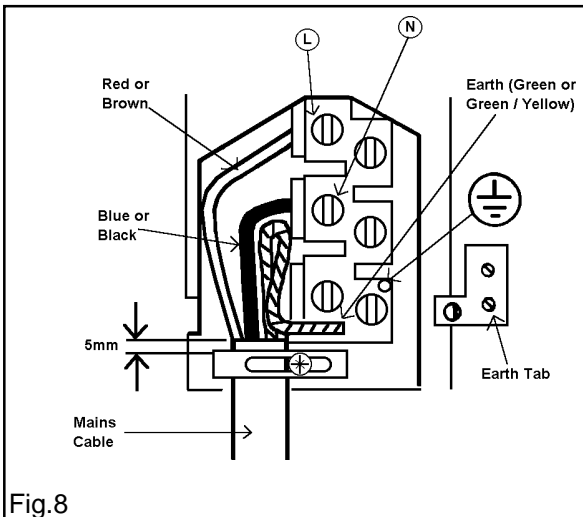

Fig.8
- Make connection as shown in Fig. 8 by proceeding as follows:-
- Clamp the mains cable securely ensuring 5mm of the outer insulation is inside the terminal block and that the wires are not taught but not so slack as to cause any fouling. See Fig.8.